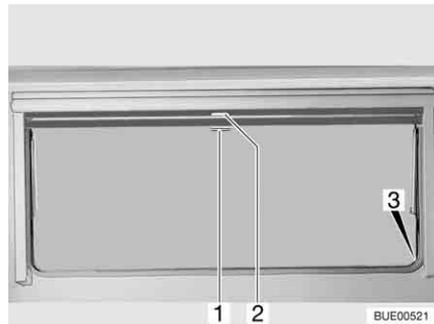

Fig. 67 Hinged window
- Pull blind at the handle (Fig. 67,2) downwards. If the blind is to be completely closed, it is suspended into the locking devices (Fig. 67,3) situated on both sides of the window frame.
- If the blind is completely closed: Press handle (Fig. 67,2) downwards and, at the same time, tilt it slightly inward. The blind can be taken out of the locking devices situated on both sides of the window frame.
- If the blind is in an intermediate position: Pull the handle (Fig. 67,2) slightly downwards until the locking device releases.
- Pull insect screen at the handle (Fig. 67,1) down and hang it into the locking devices (Fig. 67,3) situated on both sides of the window frame.
- Press handle (Fig. 67,1) downwards and, at the same time, tilt it slightly inward. The insect screen can be taken out of the locking devices situated on both sides of the window frame.